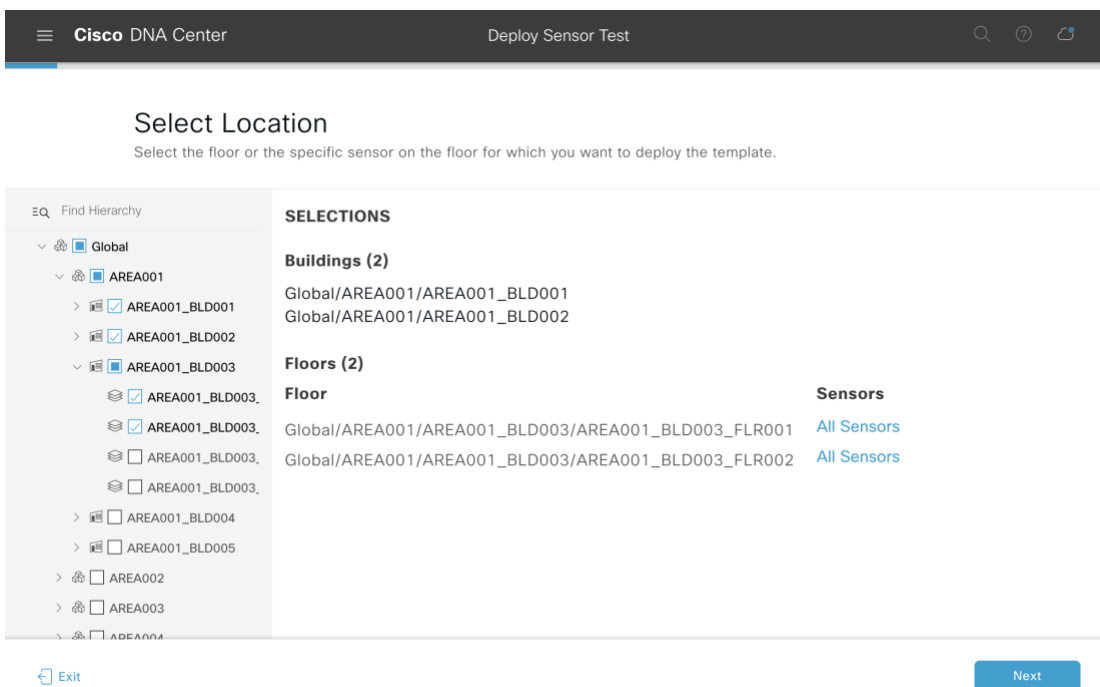

Figure 77.
- u. Optional – selecting individual sensors: If you would like to specify individual sensors to run the selected test, select the floor and you will be given an option to click the All Sensors button, which will allow you to select which sensors to deploy this test to (Figure 77.).